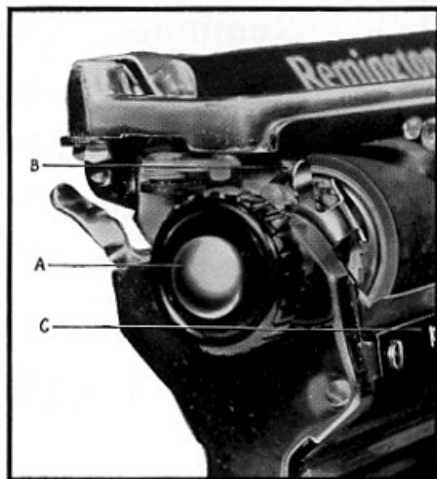

Fig. 2
11. LINE SPACE REGULATOR. For regulating space between lines of writing. (See Fig. 2.)